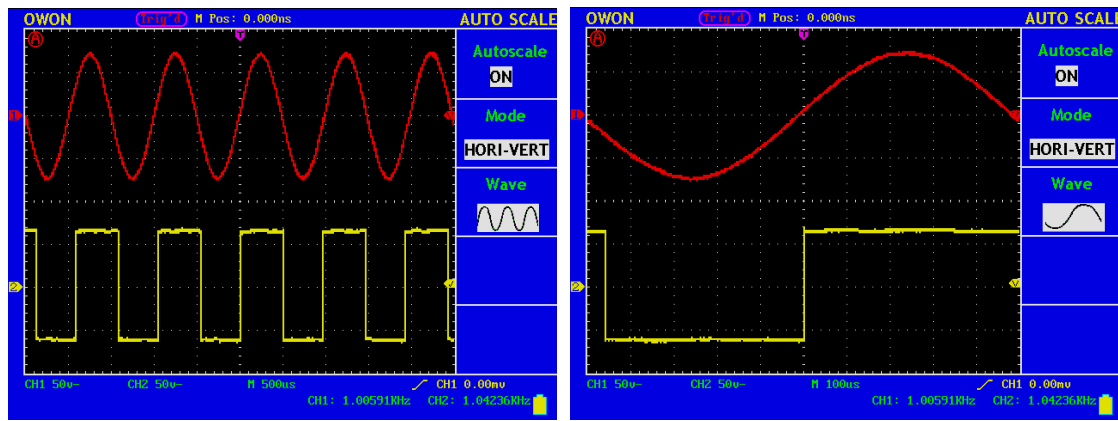

Fig.5-51: Multi cycles mode
4. Press **F3** to choose  and press F3 to change to . See Fig. 5-51 for details.